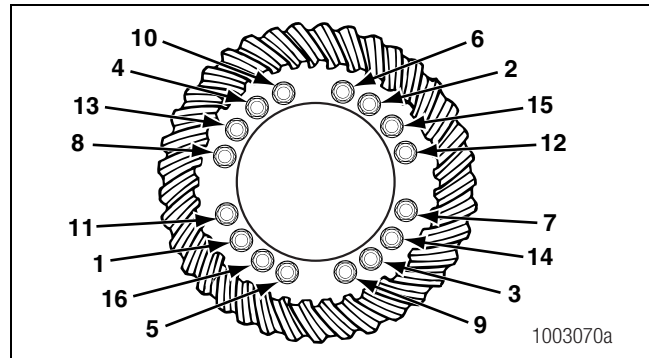

Figure 5.45
- A. Install four capscrews and washers or bolts, nuts and washers, if equipped, into the case halves. The distance between the fasteners must be equal. Tighten the fasteners to the correct torque value in a progressive crisscross pattern opposite each other. Refer to Section 8. Figure 5.45.